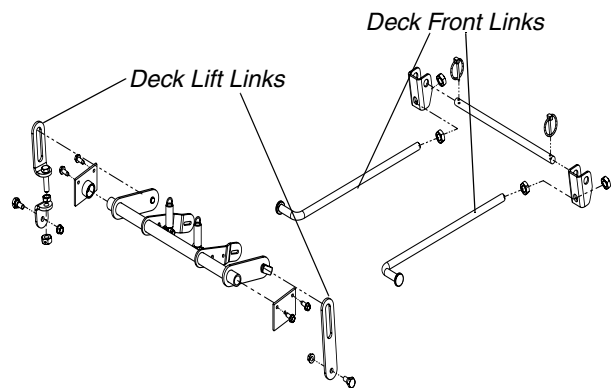

Figure 5
- c. If the dimension at the front of the mowing deck is 1/8"-1/4" lower than the dimension at the rear of the deck (pitch) on each side of the mower, do not adjust. If not, you will need to adjust the Deck Front Links (See Figure 5).